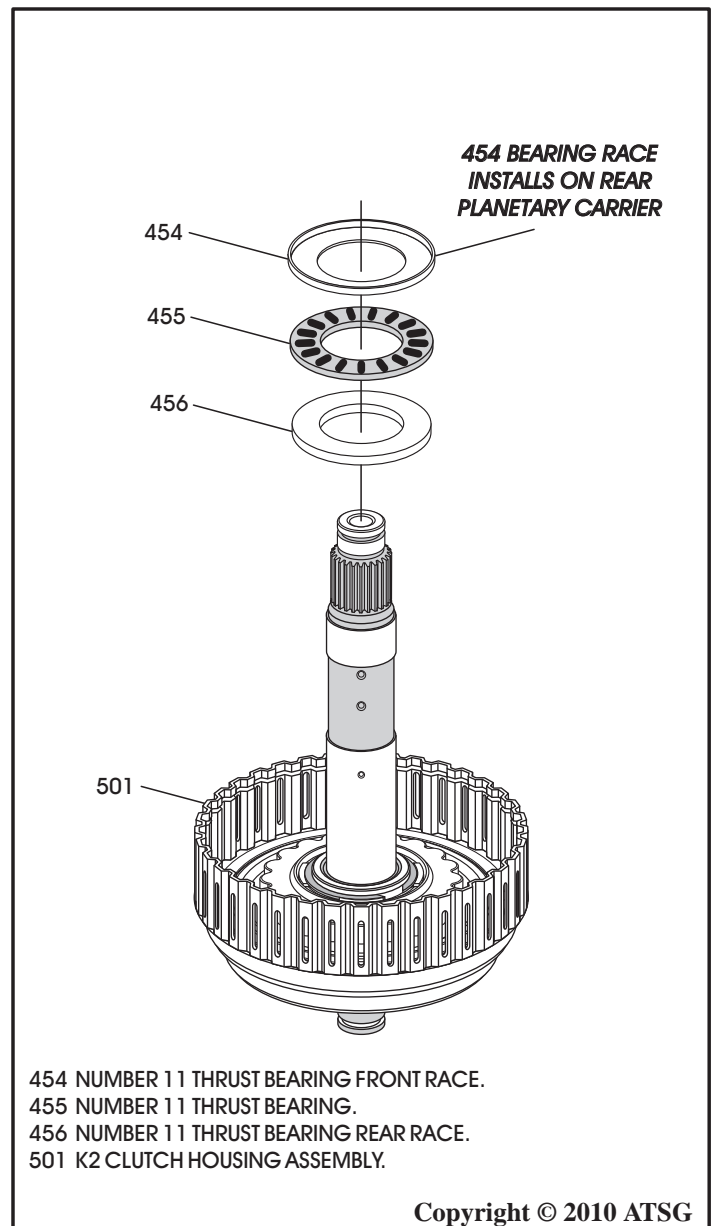

Figure 94
12. Install the number 11 thrust bearing **rear** race and the number 11 thrust bearing, as shown in Figure 94, and retain with Trans-Jel®.